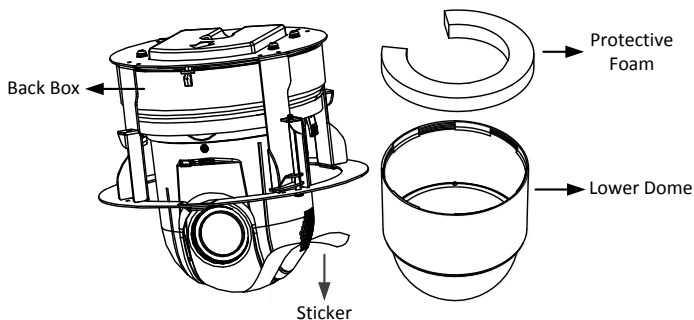

Figure 2-1 Remove the Protective Accessory
1. Rotate the lower dome counterclockwise to separate it from the back box as shown in Figure 2-1.